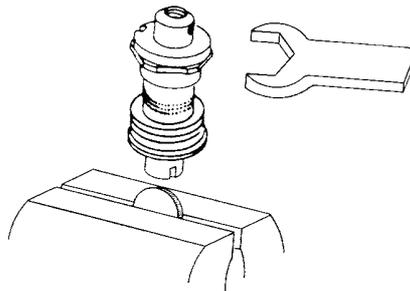
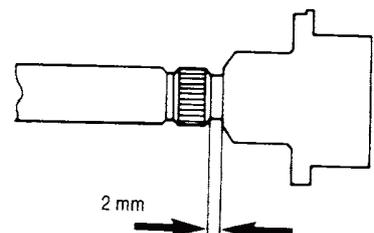

FIGURE 3
FIGURE 6
1. Unscrew the servo valve (15).
2. Unscrew the stop screw (10) using a 1.5mm allen wrench and remove the valve tube (13). Remove the O-rings (14, 12). Make sure the sealing surfaces are not damaged.
3. Remove the rubber plate (11).
4. To open valve housing place a 25¢ coin or washer of similar dimensions in a vise as shown in figure 3. Lower the valve housing slot onto coin or washer. Use a 24mm open end wrench, or 8 inch adjustable wrench on the wrench flats to loosen housing.
2. **Pre 1990 Ultima:** With the sleeve (6) inside out, snap it in place over the sleeve holder (7), flipping it right side out as you go.
3. Grease the sleeve with a very thin coating of silicone. Install the sleeve holder (7) and the sleeve (6), or the newer sleeve and holder assembly (31) into the cleaned valve housing (4).
4. Place the O-ring (8) in the groove of the sleeve holder (7). Lubricate the thread. Install the valve housing nut (9).
5. To close valve housing place a 25¢ coin or washer of similar dimensions in a vise as shown in figure 3. Lower the valve housing slot onto coin or washer. Use a 24mm open end wrench, or 8 inch adjustable wrench on the wrench flats to tighten housing.
6. Install the O-rings (12, 14) on the valve tube (13). Grease the threads and the O-rings lightly.
7. Screw in the valve tube (13) until about .078" (2mm) space remains (if you don't have a .078" gauge or micrometer the edge of a U.S. nickel can be inserted as a gauge). (See Fig. 6)
A. Valve tube (13) may be adjusted too far in from diaphragm. See the valve tube (13) adjusting procedure on page 5.
B. In rare instances the regulator hisses from the second stage unless the valve tube (13) is screwed all the way in with no gap (when compared to fig. 6 on page 5). This seems to force the technician to set the regulator up to be hard breathing. The problem under these circumstances is often the very small spring attached to the backside of the purge bar (28). This spring should have a slight gap between it, and the diaphragm. If it is too long, it will be in constant contact with the diaphragm (25), pushing the diaphragm towards the servo valve (15) as you screw the valve tube inward away from the diaphragm. To correct this, use a sharp pair of side cutters to snip just the end coil off of the spring. Then follow the valve tube adjusting procedure on page 5.